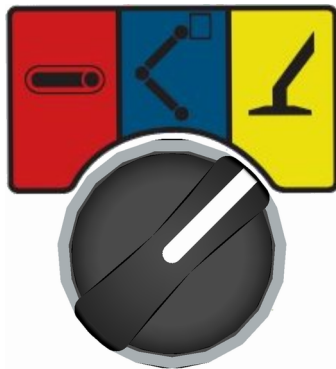

Fig. 101: Outrigger function
3. → Set toggle switch (Fig. 101) on control panel to the outrigger function (yellow).